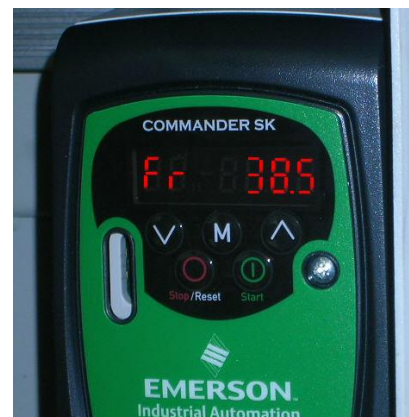

Figure 9.9 – VFD frequency readout
4. Inspect the value displayed on the panel of the VFD. It should be around **36.5** Hz. See figure 9.9. Record the